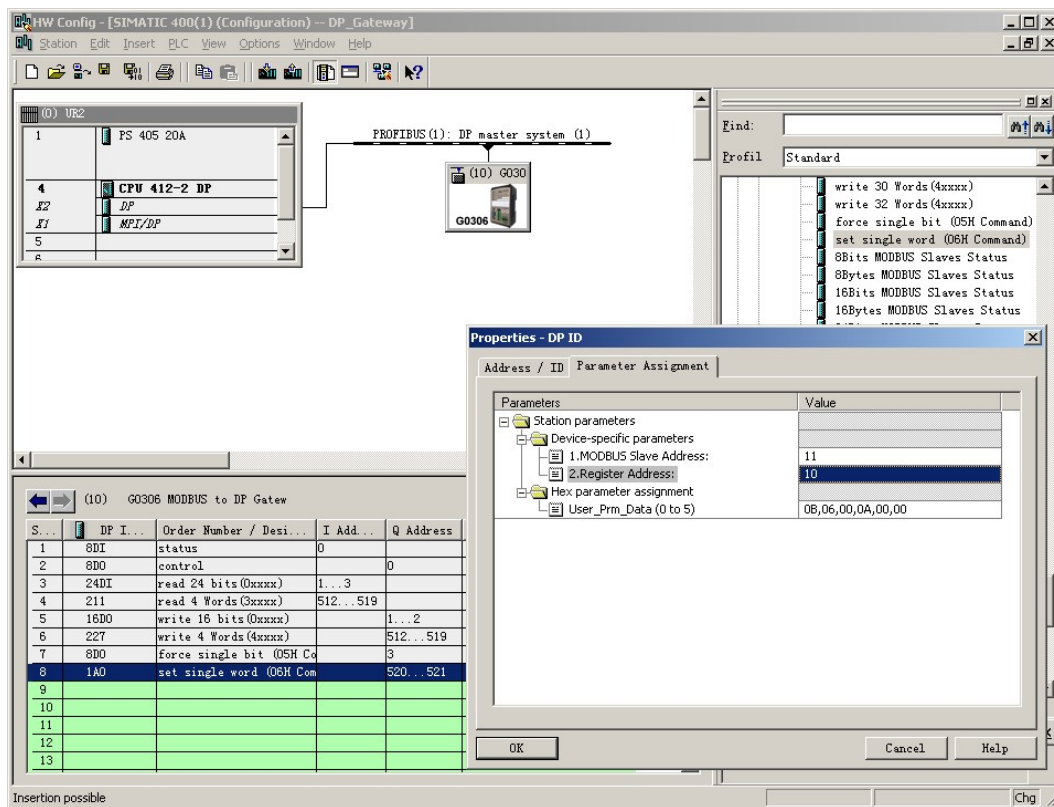

Figure 32 Configure "set single word (06H Command)" module user parameters
b) Configure the user parameters of the "set single word (06H Command)" module, as shown in Figure 32:
"1.MODBUS Slave Address:" ⇒ Type in Modbus slave address 11, as shown in Figure 32
"2. Register Address:" ⇒ Type in the address 40011 to be written to the register 4xxxx, set the address to 10 ⇒ "OK", Figure 32